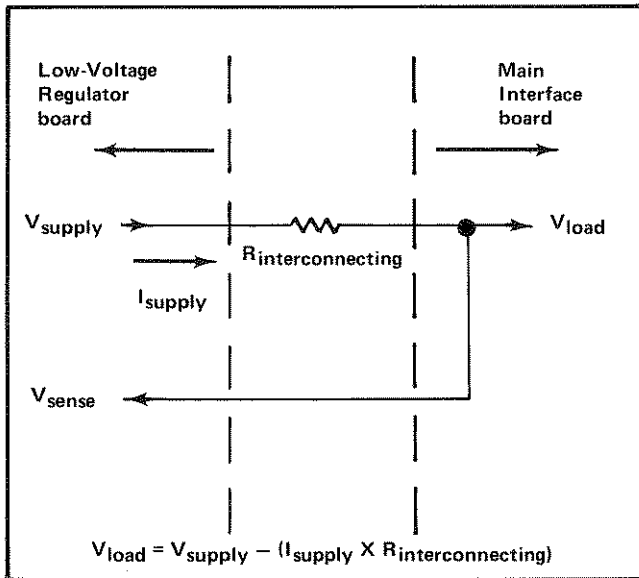

Fig. 3-36. Schematic illustrating voltage drop between power-supply output and load due to resistance of interconnecting wire.
Zener diode VR982 sets a reference level of about —9 volts at the base of Q984A. A sample of the output voltage from this supply is connected to the base of Q984B through divider R985-R986-R987. R986 in this divider is adjustable to set the output level of this supply. Notice that the feedback voltage to this divider is obtained from a line labeled —50 V Sense. Fig. 3-36 illustrates the reason for this configuration. The inherent resistance of the interconnecting wire between the output of the —50-Volt Supply and the load produces a voltage drop which is equal to the output current multiplied by the resistance of the interconnecting wire. Even though the resistance of the wire is small, it results in a substantial voltage drop due to the high output current of this supply. Therefore, if the feedback voltage were obtained ahead of this drop, the voltage at the load might not maintain close regulation. However, the —50 V Sense configuration overcomes this problem since it obtains the feedback voltage from a point as close as practical to the load. Since the current in the —50 V Sense line is small and constant, the feedback voltage is an accurate sample of the voltage applied to the load.
The Format Generator stage provides the output signals to the vertical and horizontal deflection systems of the instrument to produce the character display. The binary Channel Address No. 2 code from the Channel Counter stage is connected to this stage so that the display from each channel is positioned to the area of the CRT which is associated with the plug-in and channel originating the word (see Fig. 3-36). The positioning current or decimal point location current generated by the Decimal Point Logic and Character Position Counter stage is added to the horizontal (X) signal at the input to the Format Generator stage to provide horizontal positioning of the characters within each word. The X- and Y-output signals are connected to the Horizontal Output and Vertical Output stages respectively.